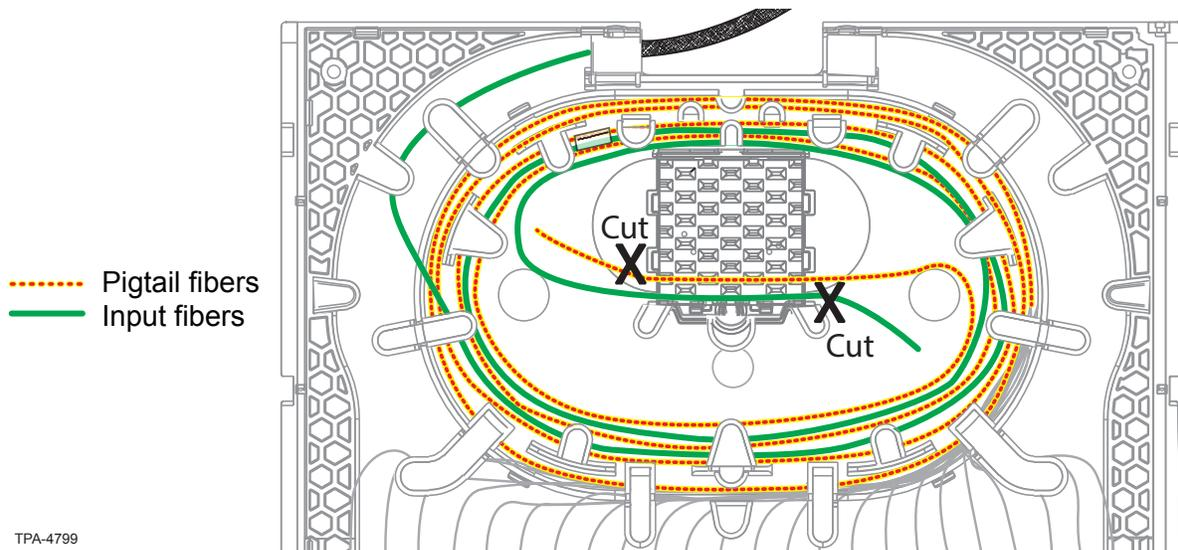

Figure 24
**Step 11:** Bring input fibers into the splice organizer on one side of the organizer (Figure 24).
**Step 14:** Cut the ribbons/fibers at the outer edge of the splice organizer (Figure 24).